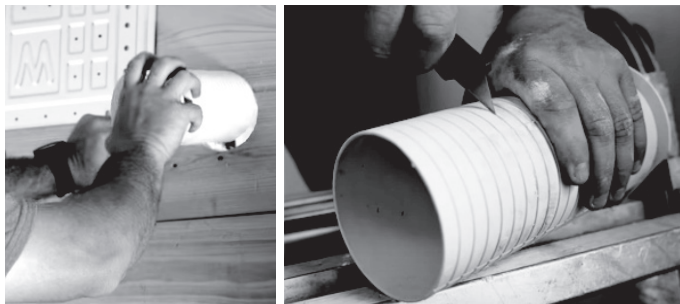

Fig. 5.6
3. Insert the protective wall sleeve through the hole of the inside wall, noting the amount it protrudes from the exterior wall. Then, trim the excess, with a utility knife or a saw, to make it flush with the exterior wall (See Fig 5.6). Then, reinsert the wall hole sleeve for the final time.